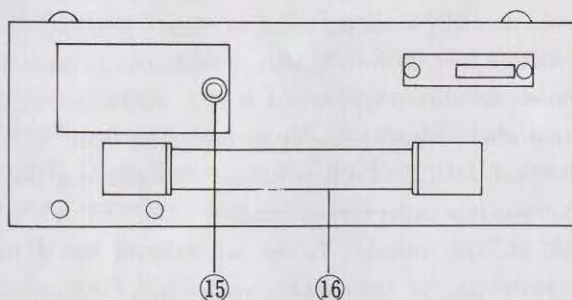

Fig. 1-2 Rear side of case.
- ⑥ SELECTOR switch: To be set at R, C, or L (resistance, capacitance, or inductance, respectively) depending on the component to be measured.
- ⑦ NULL indicator: 10-0-10 scale used for DC resistance measurements and 0-10 scale (at right of 0) for capacitance and inductance measurements.
- ⑧ Mechanical zero adjust for NULL indicator.
- ⑨ D, Q dial: With two scales, outer for dissipation factor, D, and inner for  $R_E$  (equivalent series resistance) calibrated for values at 1kHz. But actual equivalent series resistance must be calculated through 2.5 or 2.6 on page 10 and page 11.
- ⑩ X1 – X10 switch: Selects the multiplier for the D and  $R_E$  readings on the D, Q dial.
- ⑪ SOURCE switch: Selects the internal bridge operating source, DC for DC resistance measurements and AC at 1kHz for resistance, capacitance and inductance measurements.
- ⑫ RED HI
- ⑬ BLUE EXT. +DC
- ⑭ BLACK terminal: For grounding to the case.
B. Rear Side of Case, Fig. 1-2